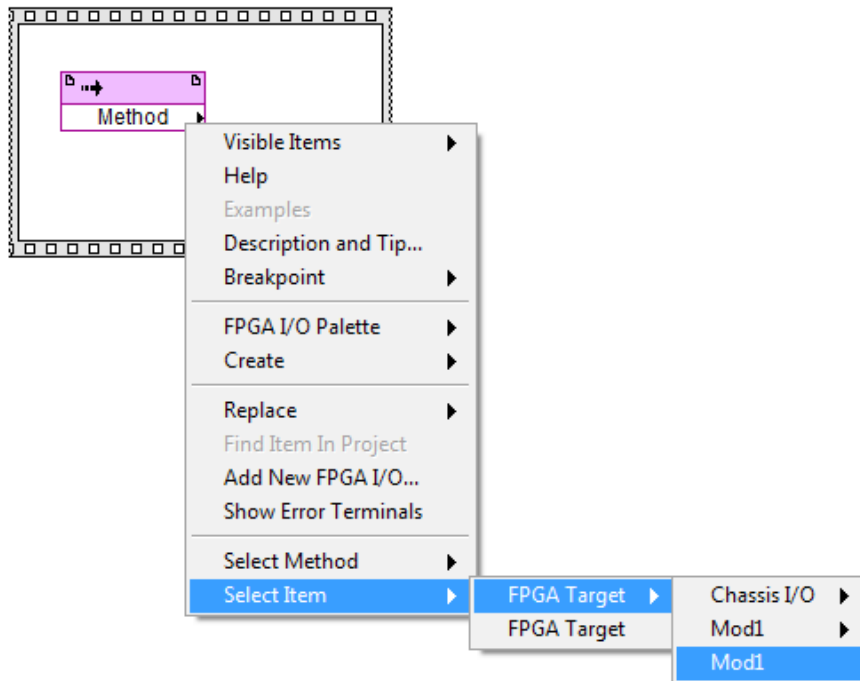

Fig. 5: Quick Start – Select module
- 13. Place a method node from the functions palette (*FPGA I/O* → *I/O Method*) into the *Flat Sequence Structure Frame* (Fig. 5). Afterwards, select e.g. the item *Mod1* (exact naming depends on the cRIO slot used) as shown in figure 5.